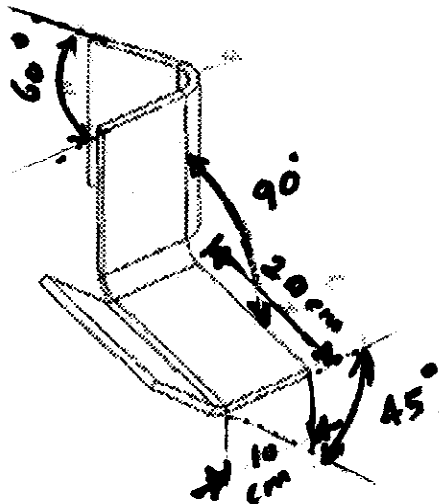

Fig. Q3
3. An angular bracket is to be made using 2mm thick sheet of mild steel. The fig.Q3 shows the geometry of the final part. There are 4 flat faces in the part, each of size  $10\text{cm} \times 20\text{cm}$ . The three bends angles shown in figure are  $60^\circ$ ,  $90^\circ$  and  $45^\circ$ . Each bend has an outer radius (R) of 3mm. The bending allowance is given by  $\alpha (R+K.t)$ ,  $\alpha$  =bend angle,  $k=0.4$  and  $t$ =thickness. Sketch the flat blank required to construct the bracket giving the exact dimensions.